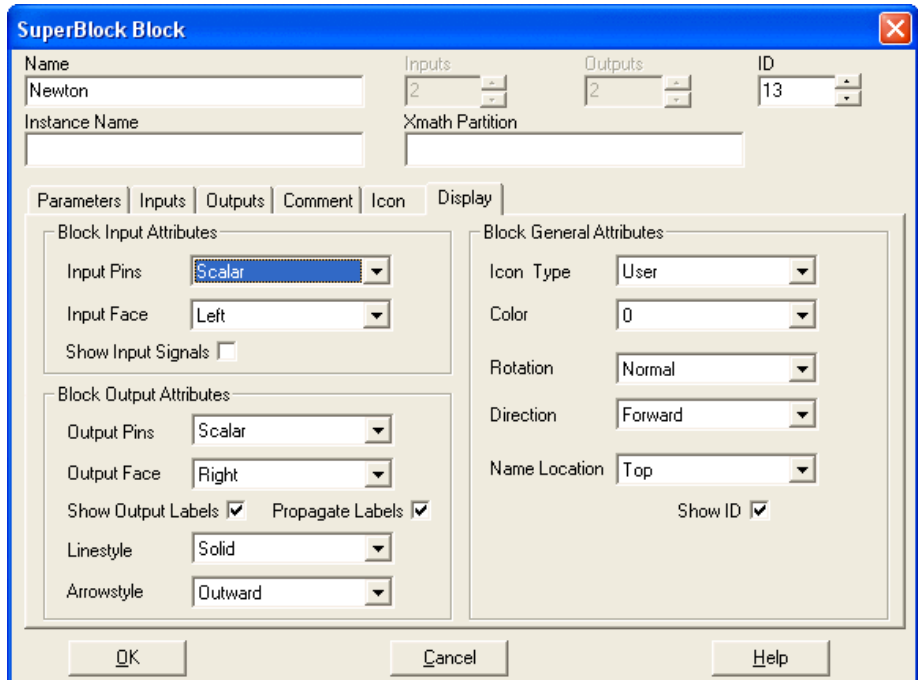

Figure 4-28. SuperBlock Block Properties: Encapsulation
The **SuperBlock Block** properties dialog box is displayed. The **Parameters** tab is selected and all properties are set to their default values. Figure 4-28 shows the **SuperBlock Block** properties dialog box as it appears during step 3.
- Click the **Display** tab, as shown in Figure 4-28.